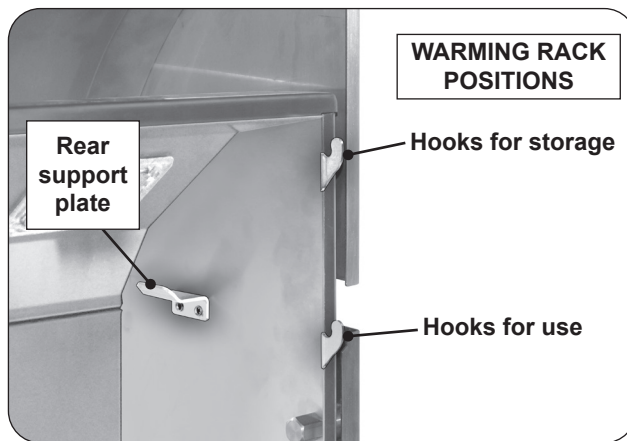
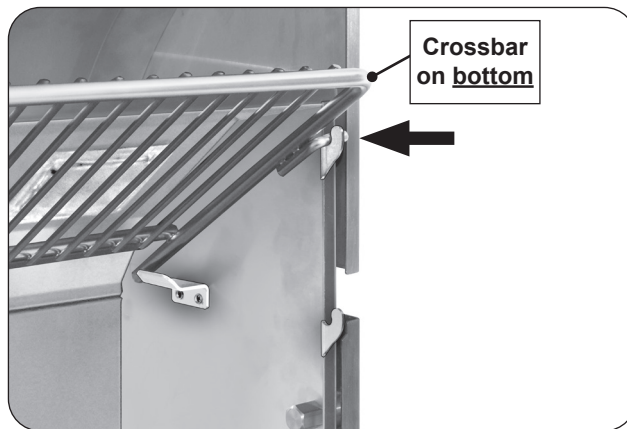

Fig. 33-1 Warming rack hooks
Fig. 33-3 Place warming rack in storage position
1. Locate the warming rack hooks and rear supports found on the upper portion of the grill oven (see Fig. 33-1).
3. Use the top hooks for storage (see Fig. 33-1 and Fig. 33-3).